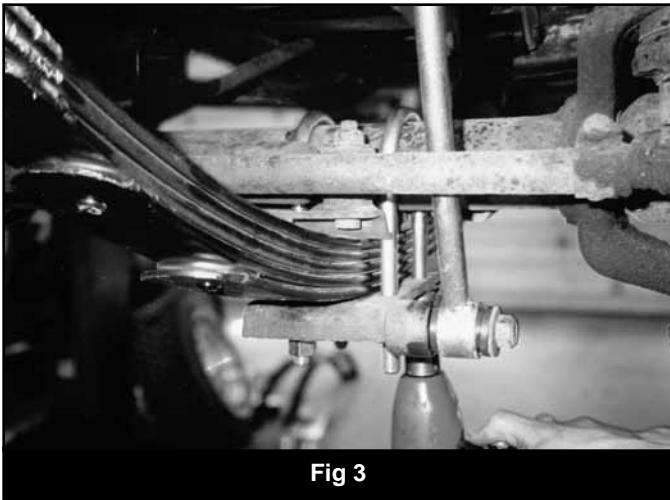

Fig 3
6. Position U-bolt plates and install U-bolts using supplied flat washers and nuts. One wide U-Bolt is supplied for the passenger side inner U-Bolt (Fig 3). Torque U-Bolts to 70-85 ft-lbs.